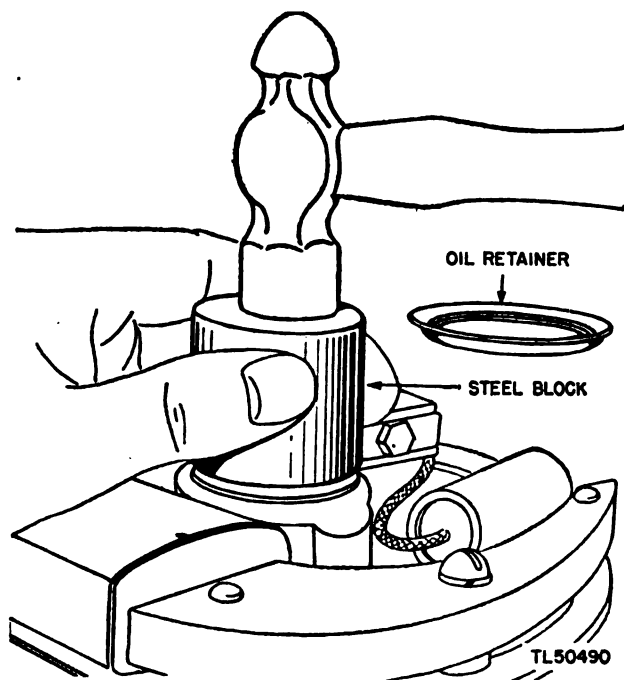

Figure 69. Replacing oil retainer ring.
e. OIL RETAINER RING (fig. 69). Replace the oil retainer, using a wood block and a hammer to force the ring into position. If the ring (fig. 40 (375)) is worn or damaged, replace it with a new one.